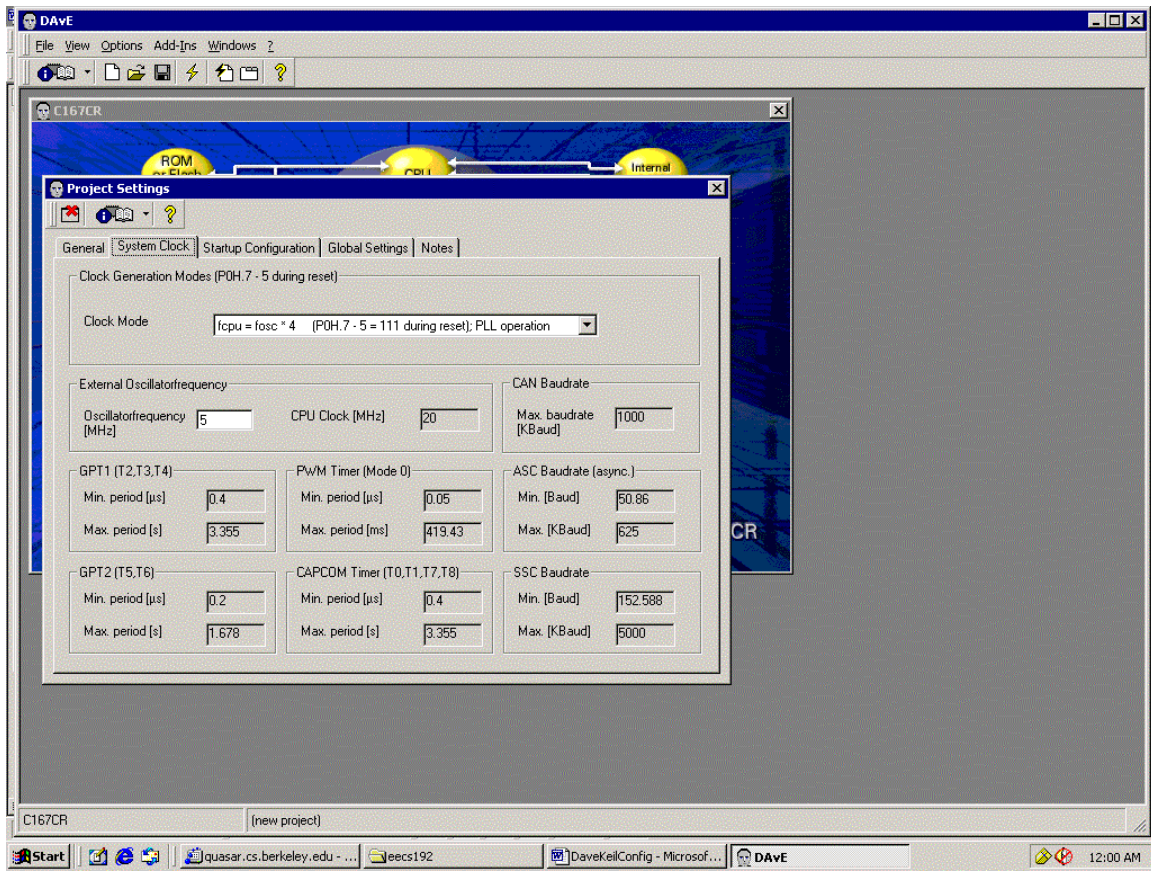

Figure 2. Change the oscillator frequency to 5 MHz.
5. Set the **Oscillator Frequency** option to 5 MHz as shown in figure 2. This helps your controller attain the maximum clock speed of 20 MHz. A little explanation is at hand. Multiplying the onboard oscillator with 1, 2, 3, 4 or 5 sets your clock mode. This allows for a variety of input clock frequencies. By default, your multiplier is set to 4. You can change this on your KitCON board using DIP switches 6, 7 or 8. Refer to figure 3 for a picture of the DIP switch. Refer to the KitCON hardware manual on setting clock modes using DIP switch S3. Please **DO NOT** change the DIP switch settings on the microcontroller board unless you know what you are doing!